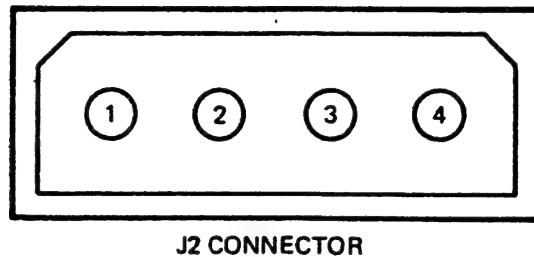

Figure 2-4. Connector Outline - J2
2.3.1.2 Power Connector. The DC power connector (J2) is mounted opposite to J1 on the component side of the PWB. Power connector J2 is a 4-pin AMP P/N 1-480426-0. The recommended mating connector P2 is AMP P/N 1-480424-0 utilizing AMP pins P/N 60619-1. The recommended wire size is #18 AWG. Figure 2-4 shows the pin-numbering sequence of J2. The 5-volt and 12-volt power returns are tied together and connected to the chassis at the drive.